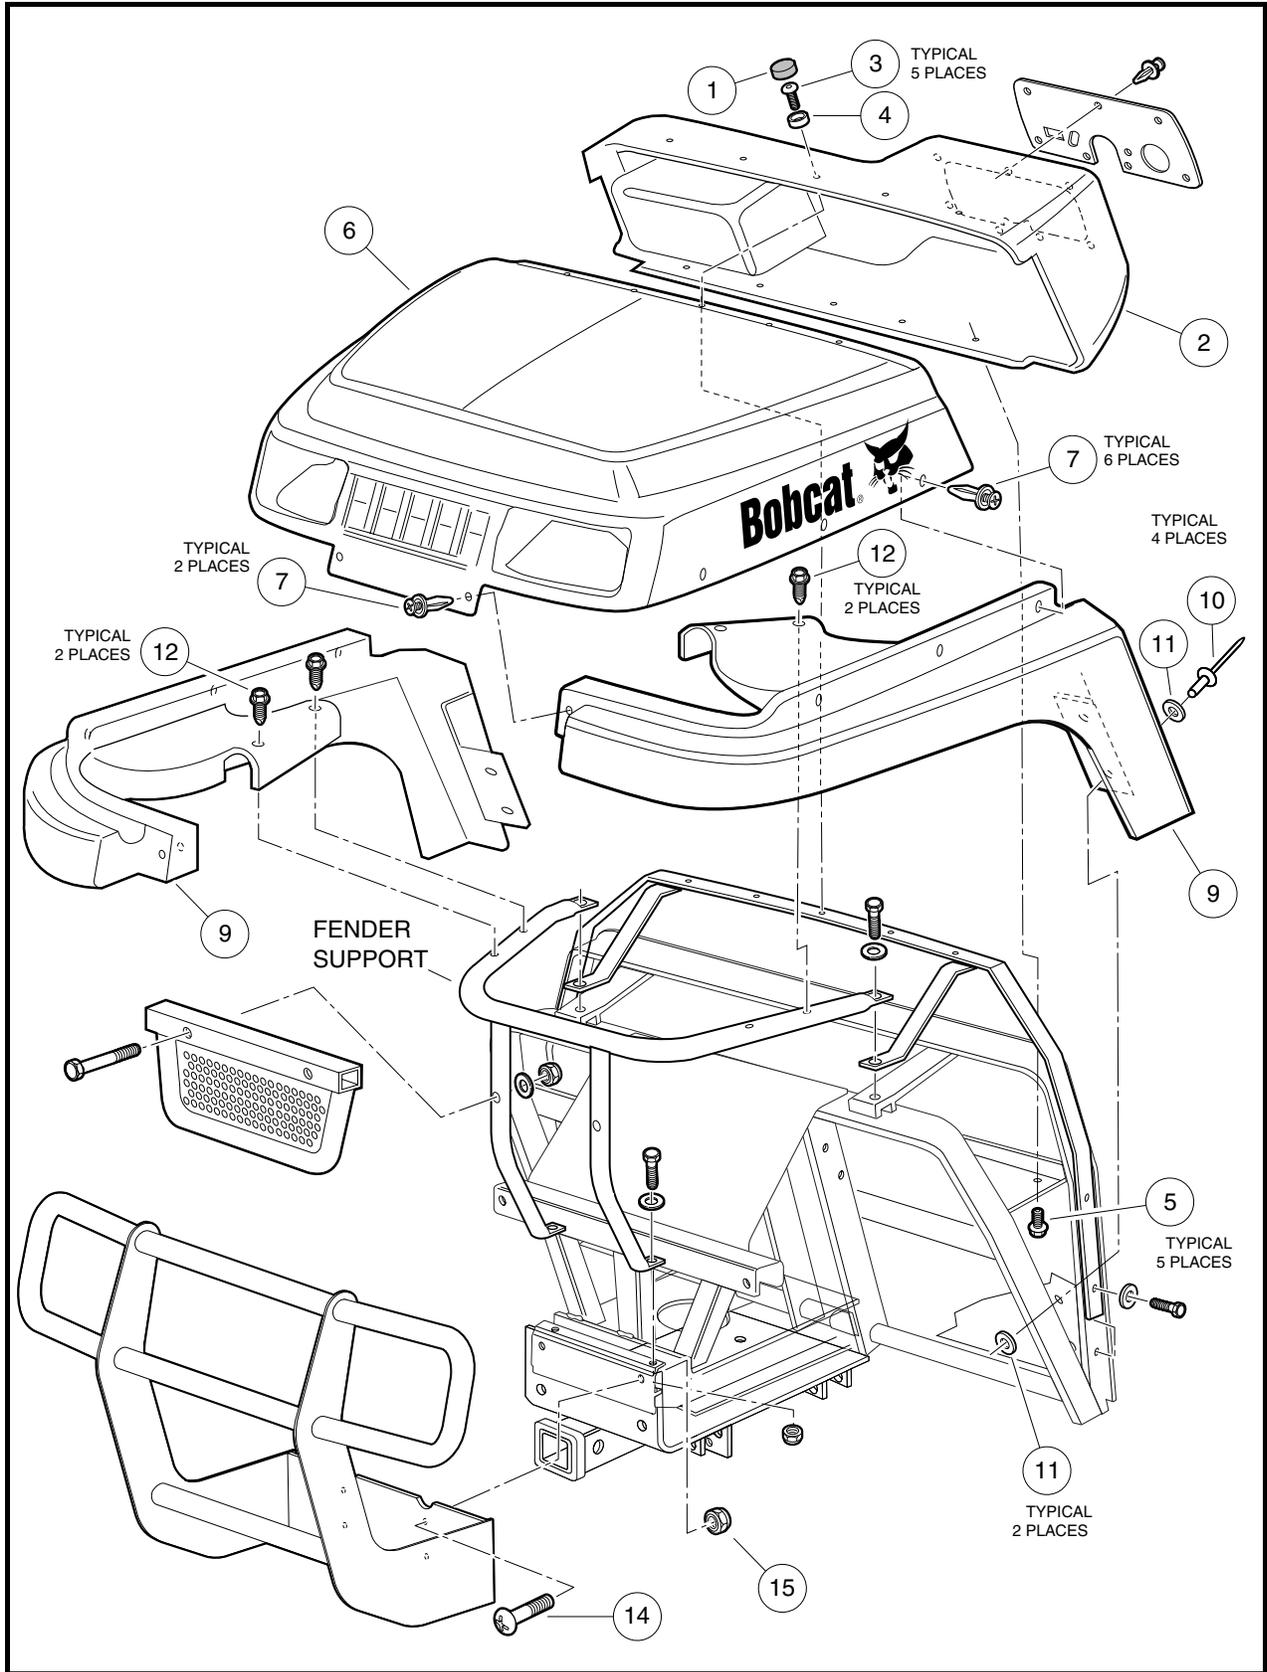

Figure 4-2 Front Body Assembly
5. Remove five caps (1) from top of dashboard (2) (**Figure 4-2, Page 4-5**).
6. Remove screws (3) and special plastic washers (4) from top of dashboard (2) using a Torx #T-30 driver.
7. Remove five screws (5) from underside of dashboard and pull dashboard away from front body (6).
2. Tighten screws (5) to 11 in-lb (1.2 N·m) (**Figure 4-2, Page 4-5**).
3. Tighten Torx-head screws (3) with plastic washers (4) to 45 in-lb (5.1 N·m).
4. Install five caps (1).
1. Remove five caps (1) from top of dashboard (2) (**Figure 4-2, Page 4-5**).
2. Use a Torx #T-30 driver to remove the Torx-head screws (3) and washers (4) from top of front body (6).
3. Use a 5/16 nut driver to remove five screws (5) from underside of dashboard (2) and gently slide dashboard away from front body (6).
4. Use a phillips head screwdriver to remove the six Tuflok fasteners (7) from sides and two (7) from front of body (6).
1. Remove front body (6) (**Figure 4-2, Page 4-5**). See **Front Body Removal** on page 4-3.
2. Pull back floor mat to access rivets securing front fender (9) to frame. Drill out two 3/16 x 5/8 pop rivets (10) and remove two washers (11).
3. Use a 3/8 hex-head socket to remove two screws (12) from fender frame support and remove fender.
1. Reverse the fender removal process (**Figure 4-2, Page 4-5**).
2. Tighten screws (12) to 50 in-lb (5.7 N·m).
3. Pop rivet fender to frame using two 3/16 x 5/8 pop rivets (10) and two 3/16 rivet washers (11).
1. Reverse the front body removal process (**Figure 4-2, Page 4-5**).
2. Secure front body to dashboard with screws (3) and plastic washers (4) and tighten to 45 in-lb (5.1 N·m).
3. Install five caps (1).
4. Secure front body to fenders with fasteners (7) and push the heads in until they snap into place.